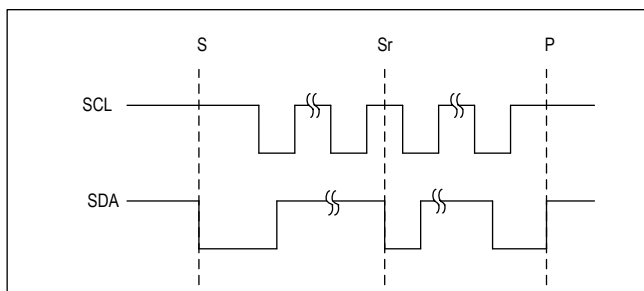

Figure 5. I2C START, STOP, and REPEATED START Conditions
When writing to the device using I2C, the master sends a START condition (S) followed by the device I2C address. After the address, the master sends the register address of the register that is to be programmed. The master then ends communication by issuing a STOP condition (P) to relinquish control of the bus, or a REPEATED START condition (Sr) to communicate to another I2C slave. See Figure 5.